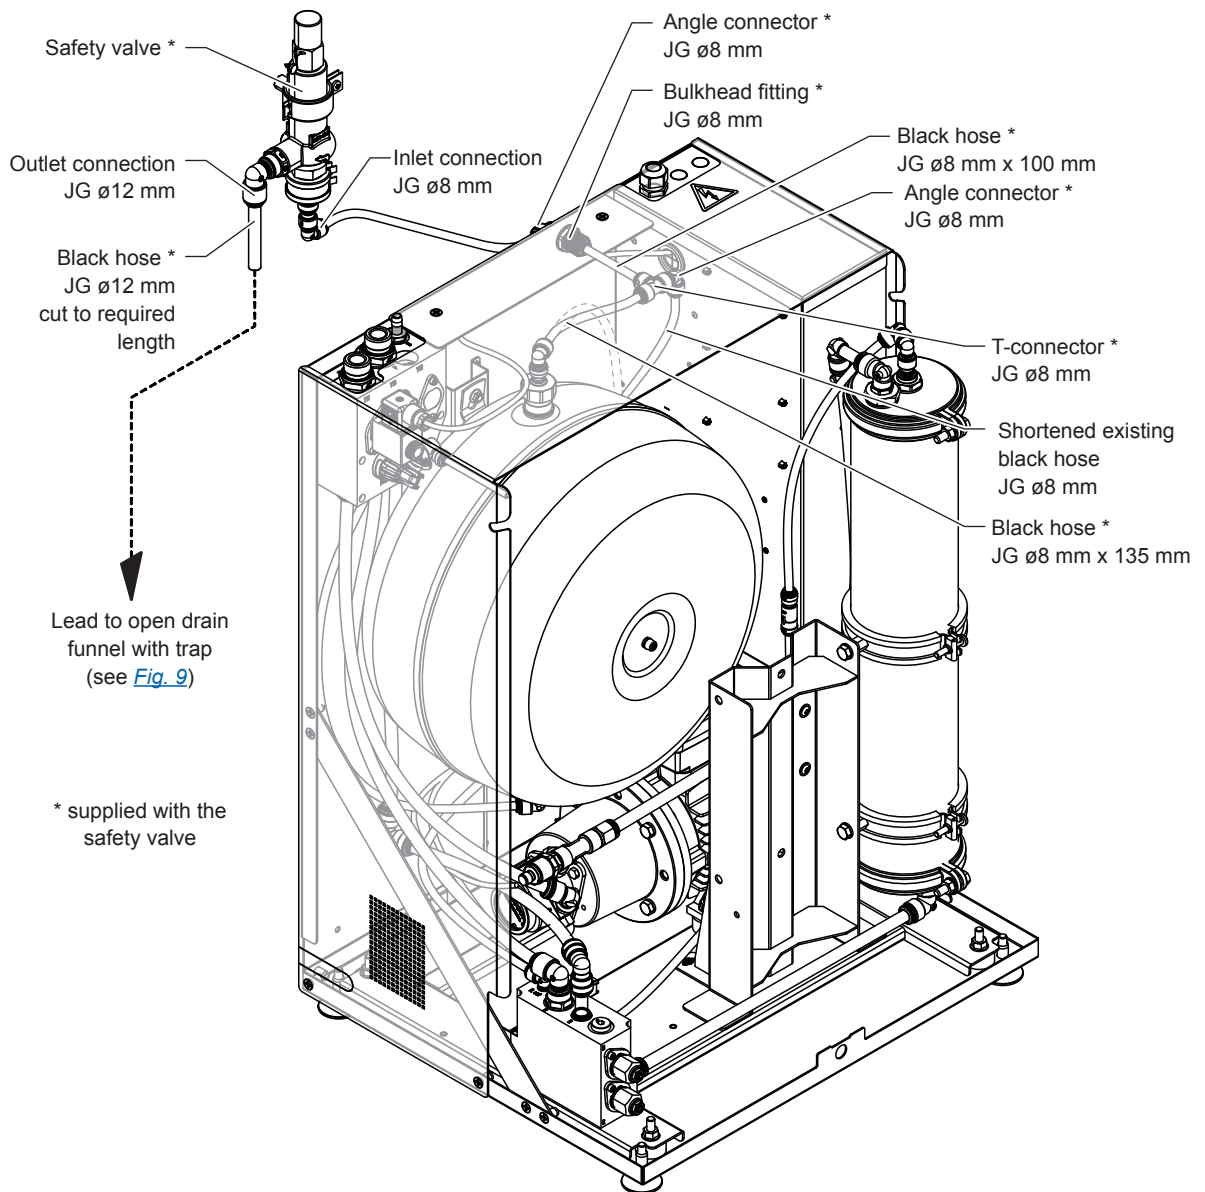

Fig. 16: Connecting the pressure tank safety valve to the Condair RO-E(+) 40/100 pure water system (figure shows RO-E 100)
4. Connect the ø8 mm JG T-connector with installed angle connector with the hoses shown in Fig. 16.